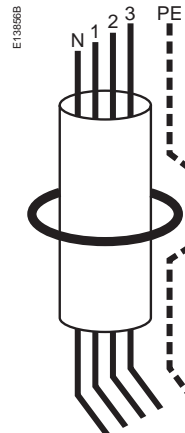

figure 2
- inner diameter of the toroid > 1.4 x outer diameter of the cable bundle (fig. 2).